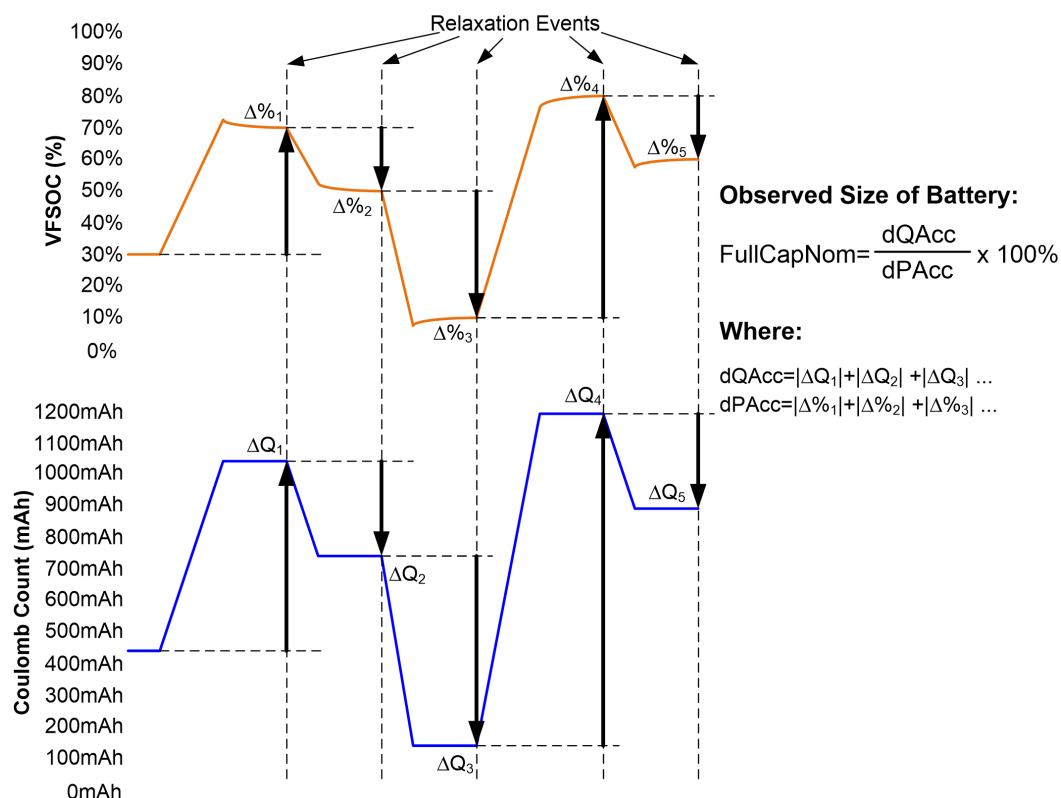

Figure 4. ModelGauge m5 learns full capacity during arbitrary cycling.
- **Cell Capacity (FullCapNom Register).** This is the total cell capacity at full, including some capacity that sometimes is not available to the application due to high loads and/or low temperature. The IC periodically compares percent change based on an open circuit voltage measurement vs. coulomb-count change as the cell charges and discharges, maintaining an accurate estimation of the pack capacity in mAh as the pack ages. See Figure 4.